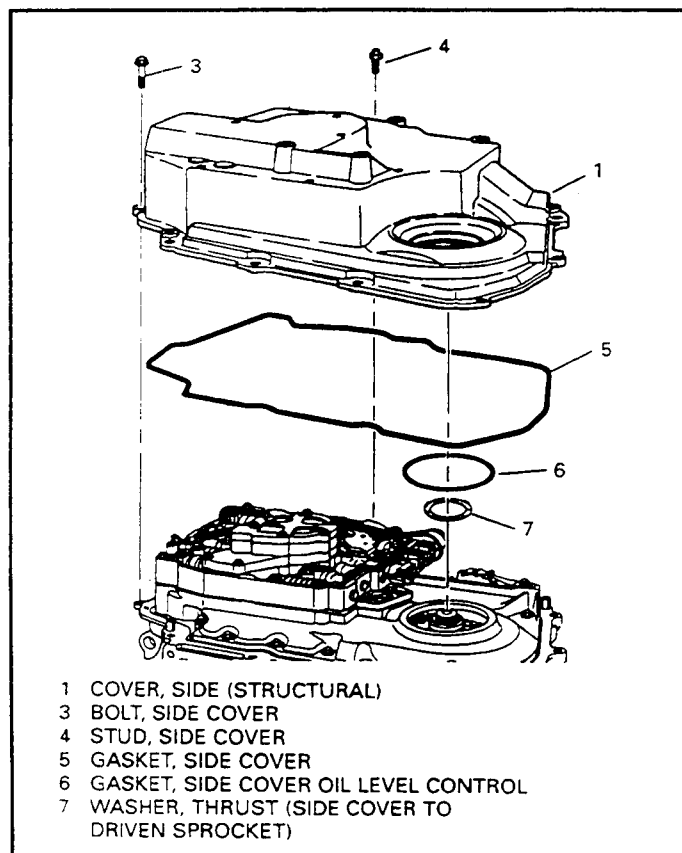

Figure 53
29. Rotate the transaxle so that the side cover (1) is facing upward as shown in Figure 53.
30. Remove the ten side cover bolts and one stud, as shown in Figure 53.
32. Remove and discard the two side cover gaskets (5 and 6) as shown in Figure 53.
33. Remove the side cover to driven sprkt support thrust washer (See Figure 53).